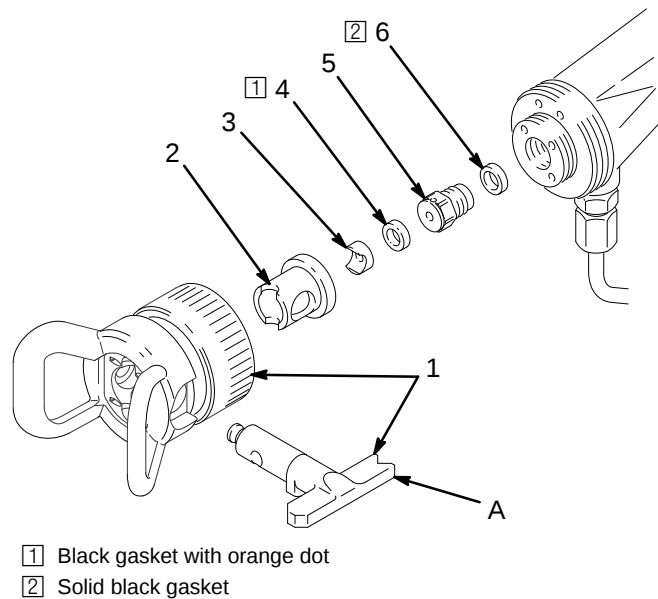

Fig. 1
3. While triggering the gun, remove and *discard* the diffuser-seat (5) and fluid gasket (6). See Fig. 1.
NOTE: The diffuser-seat you remove will not look the same as the new diffuser-seat, item 5 in Fig. 1.
4. Install the new fluid gasket (6) and diffuser-seat (5) from the kit into the gun.
5. Remove the AA RAC tip cylinder (A) from the air cap assembly (1).
6. Remove and *discard* the RAC housing (2), fluid seat (3), and gasket (4).
7. Install the new RAC housing (2) into the air cap assembly (1). Align the parts, and install the tip cylinder (A).
8. Install the new fluid seat (3) into the housing (2), behind the tip cylinder (A). Align the parts, and press the gasket (4) into place.